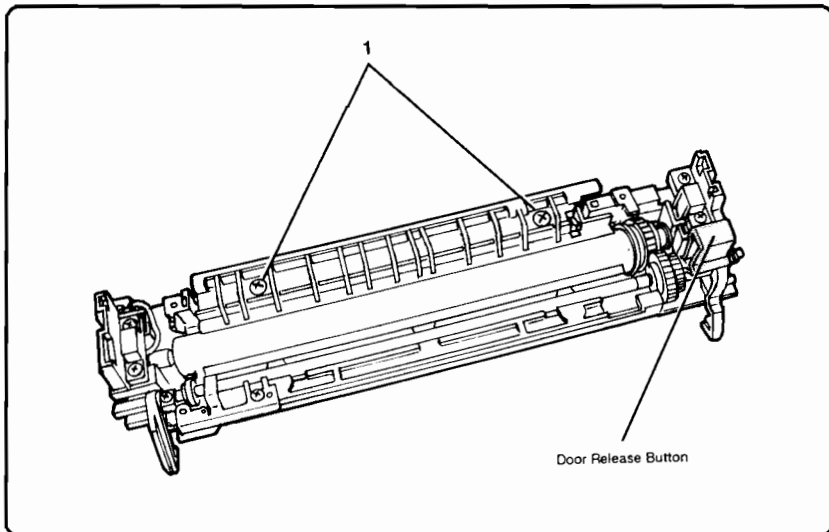

Figure 6-62. Thermoswitch (TS1 and TS2) Removal
2. Remove the shoulder screws (2) (with springs) that secure the Paper Delivery Guide (see Figure 6-62, callout 1).